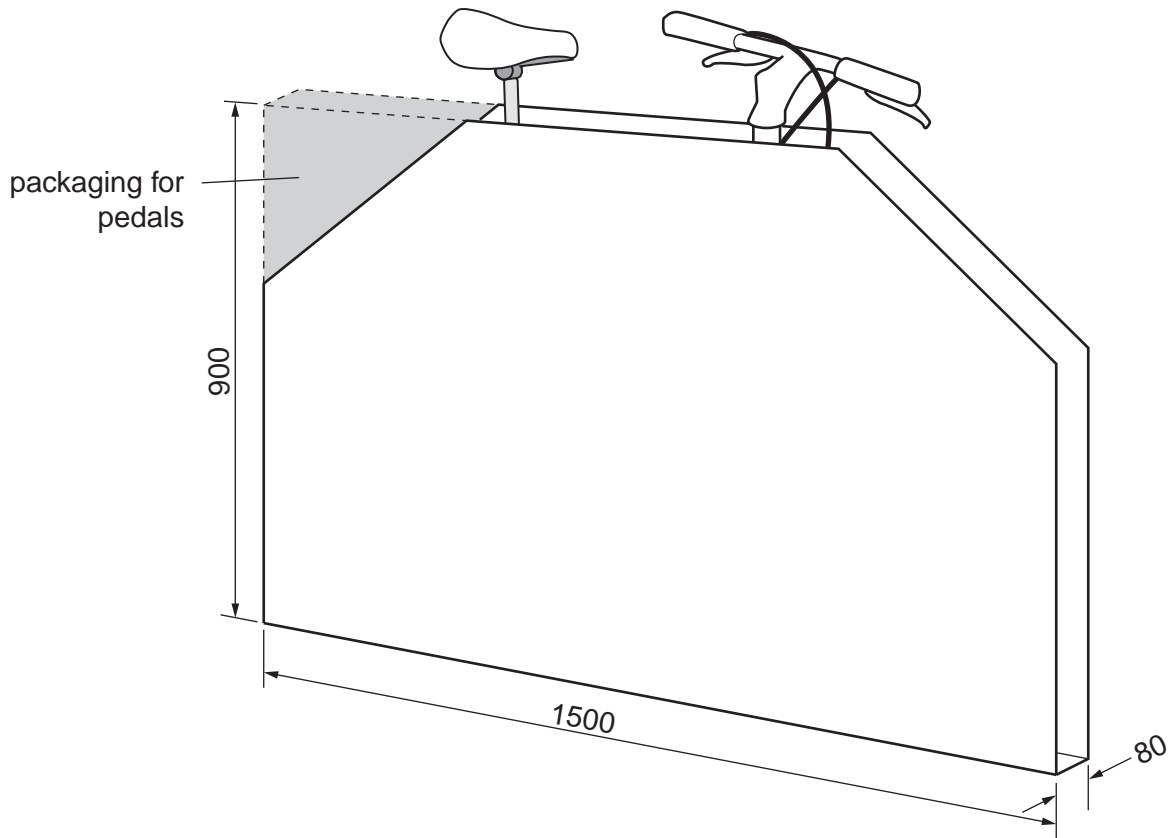

Fig. 10
- 9 Fig. 10 shows an incomplete design for the cardboard packaging that will be used to transport a new Tiger Mountain Bike made by Wild Cat Cycles.
- (c) Using notes and sketches, **develop** a design for packaging the pedals. This must be capable of being attached to the main packaging, as shown in Fig. 10, without the use of glue or any other additional materials. [16]